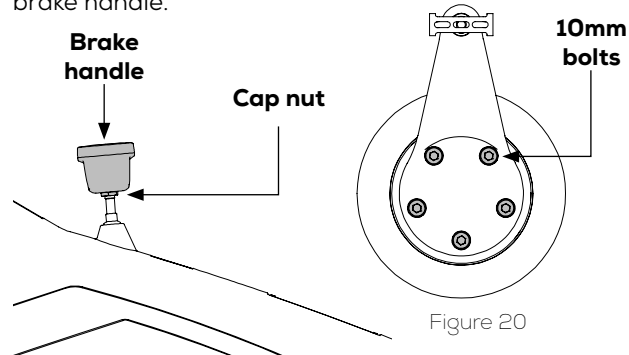

Figure 21
- 2) Dismount the brake lever. See figure 21. Hold the cap nut with a 17 mm wrench and unscrew the brake handle.